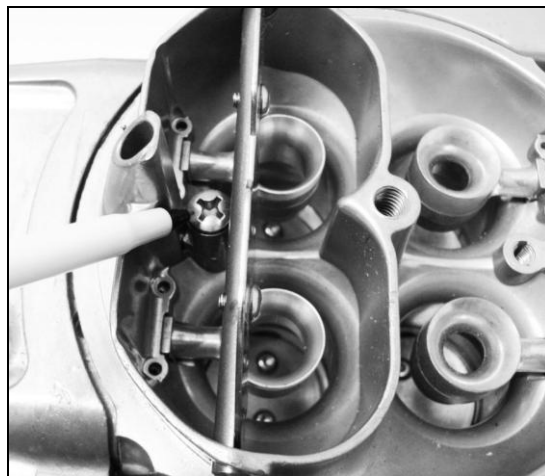

Figure 12
14. The accelerator pump discharge nozzle may be removed by loosening the Phillips head screw and inverting the main body over your hand (Fig. 12). When this is done, the nozzle, screw, and the discharge check needle should fall out. Care should be used in reinstalling the Phillips head screw so as to not strip out the threads.